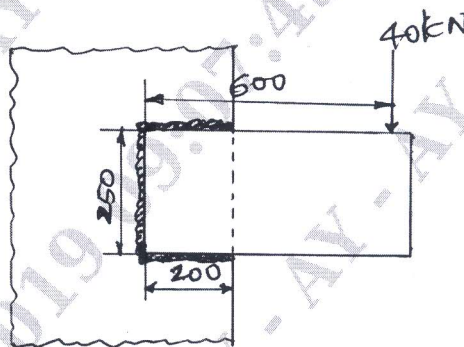

Fig.Q8(a) All dimensions are in mm.
- 8 a. Determine the size of the weld required for a plate welded to a steel column and loaded as shown in Fig.Q8(a). The allowable shear stress in the weld is limited to 80 MPa at the throat section.